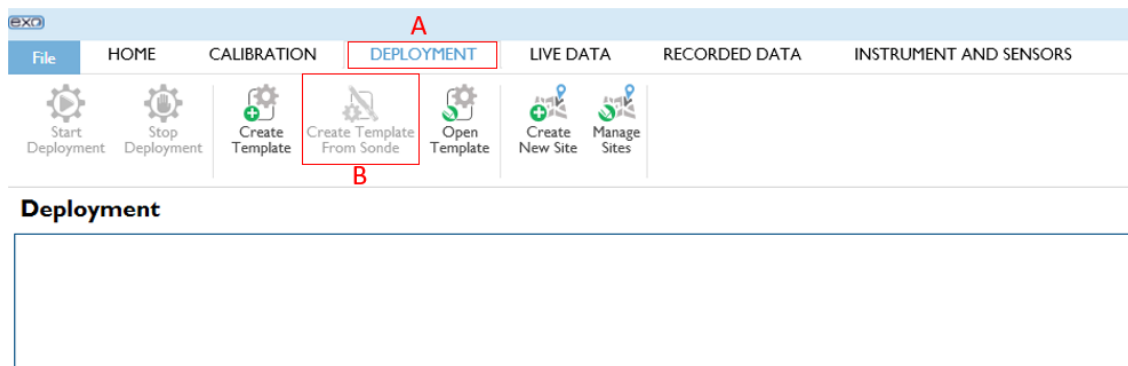

Figure 3. Navigate to Deployment Tab
1. Open the Kor software on your laptop and navigate to the Deployment tab (Step A - **Figure 3**).
2. Verify the current settings are correct by selecting “Create Template from Sonde” (Step B - **Figure 3**)